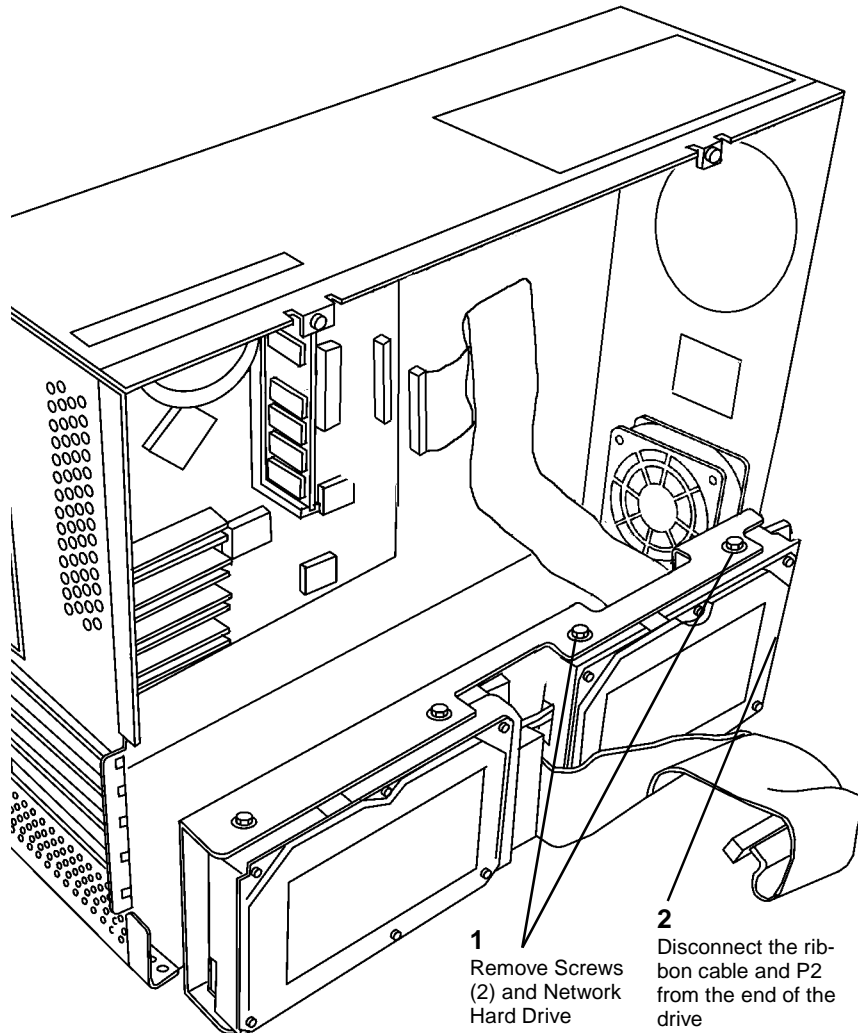

Figure 2 Removing Network Hard Drive
6. Remove Network Hard Drive (Figure 2).